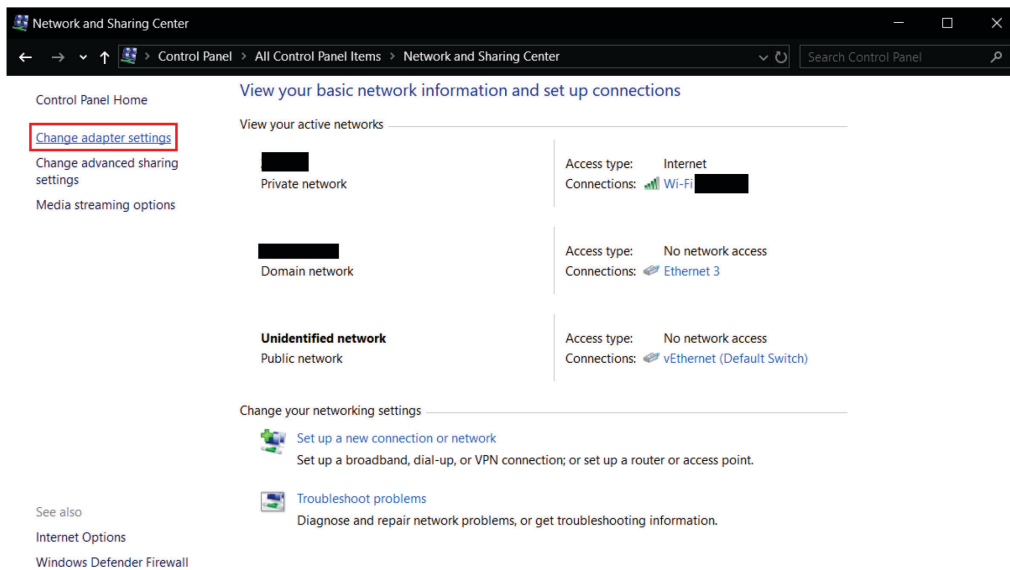

Figure 7. Configuring ethernet settings in the Adapter settings screen.
3. On the next screen, click **Change adapter settings**. A new Window will open where all the available network adapters are listed. Select the adapter related to the physical ethernet plug on your PC (usually called Ethernet) (Figure 7).